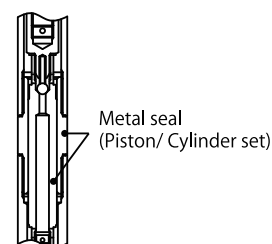

Fig.10
- 10) Wash each part and inspect for damage and wear. Replace parts as necessary. If the metal seal parts are damaged or worn out, grease will leak and discharge pressure cannot be increased, and consequently discharge volume will be decreased. In this case the piston and the cylinder must be replaced. (Fig. 10)